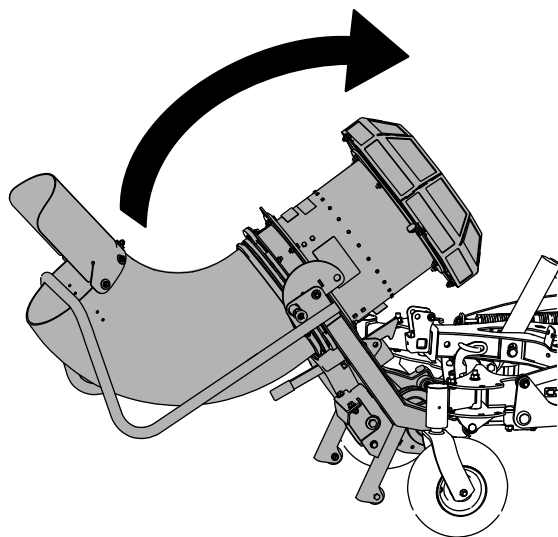
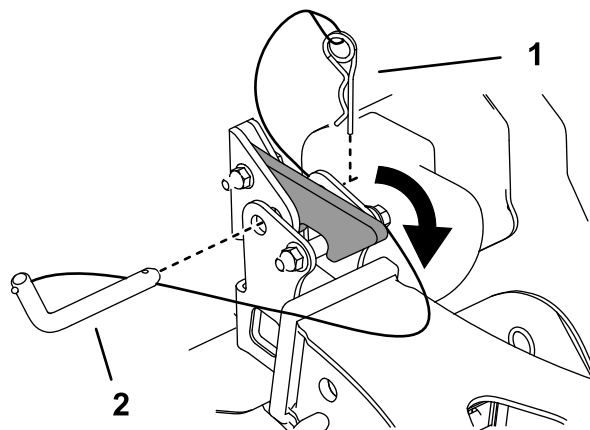

Figure 20
Figure 21
1. Raise the blower so that it latches on the hitch receiver (Figure 20 and Figure 21).
2. Secure the assembly to the hitch receiver using the hitch pin and hairpin cotter attached to the receiver (Figure 21).